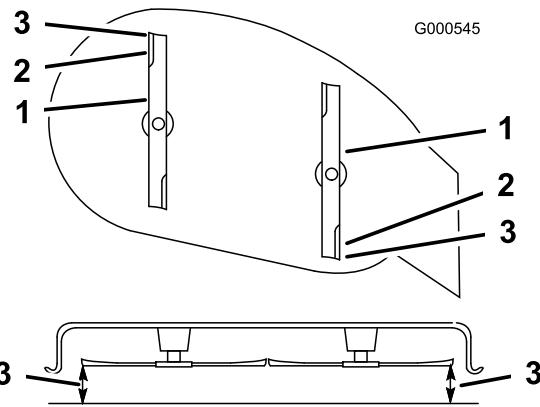

Figure 46
- Set the height-of-cut at position **D** [3 inch (76 mm)] and carefully rotate the blades so they are facing front to rear (Figure 46).
- Measure from the tip of the front blade to the flat surface and the tip of the rear blade to the flat surface (Figure 46). If the front blade tip is not 1/16-5/16 inch (1.6-7.9 mm) lower than the rear blade tip, adjust the front locknuts.